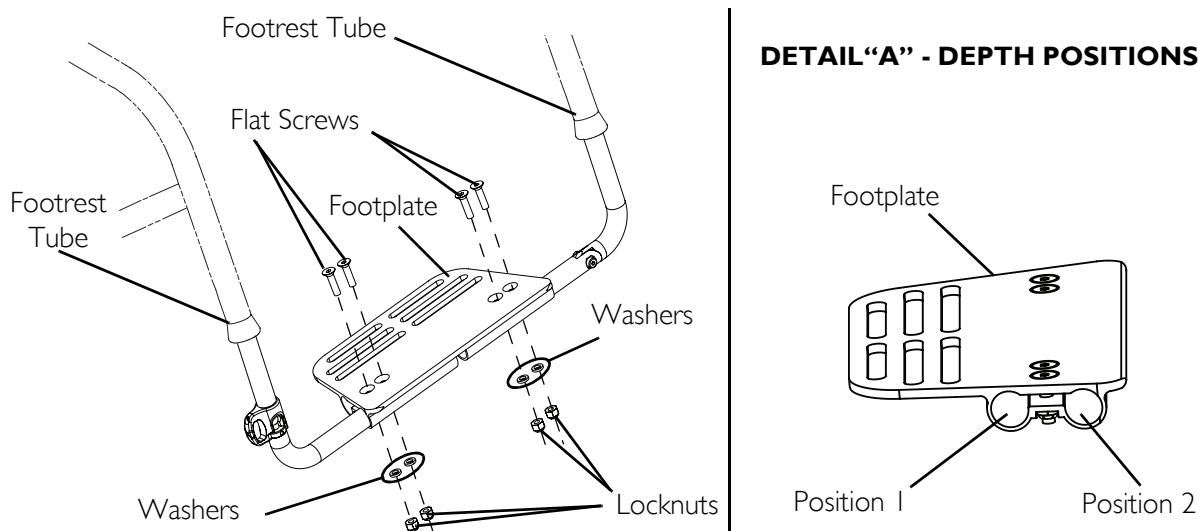

FIGURE 7.4 Adjusting Footplate Angle - Adjusting Footplate Depth
NOTE: For this procedure, refer to FIGURE 7.4.
3. Move the footplate to one of two positions to accommodate the user. See Detail “A” of FIGURE 7.4